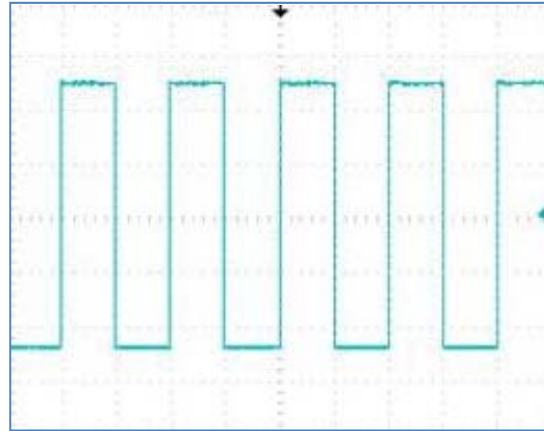

Figure 2: A Square Periodic Signal
- Amplitude (V): Amplitude is a vertical (voltage) measurement. There are a few different ways to express the amplitude of a signal. For instance, the maximum value of a periodic waveform measured from 0 to its peak is often referred to as V_{0-p} . A second way to reference amplitude is from peak to peak (V_{p-p}). For the square wave in the Figure 2, $V_{0-p} = 2.5 \text{ V}$, and $V_{p-p} = 5 \text{ V}$.